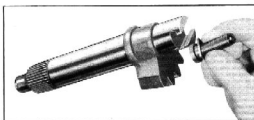

Fig. 6—Installing Lash Adjuster
3. Assemble lash adjuster with shim in slot in end of pitman shaft, Fig. 6; check the end clearance, which should not exceed .002". For the purpose of adjusting this end clearance, a steering gear lash adjuster shim unit, Part Number 605142, has been released. It contains four shims of the following thickness: .063", .065", .067" and .069".